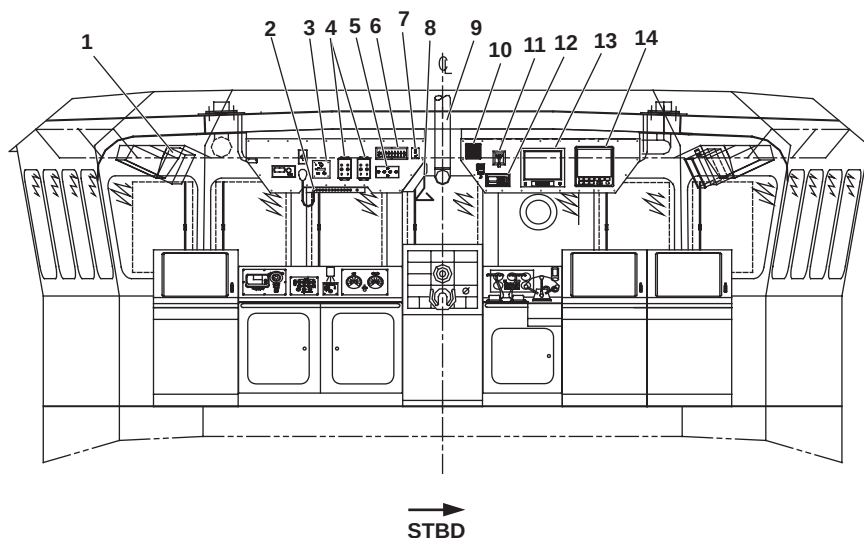

Figure 4. Pilothouse Interior (Looking Forward)
1. Digital Repeater Compass (figure 4, item 1). The digital repeater compass displays vessel heading from the gyrocompass.
2. Public Address (PA) panel (figure 4, item 2). The PA panel controls volume and destination for PA announcements.
3. Speed log (figure 4, item 3). The speed log displays vessel speed.
4. Clearview screen controls (figure 4, item 4). The clearview screen controls provide controls for the forward and aft clearview screens.
5. Windshield wiper control panel (figure 4, item 5). The windshield wiper control panel provides controls for the pilot-house windshield wipers and washers.
6. Window heater switch bank (figure 4, item 6). The window heater switch bank provides individual controls for the heated pilothouse windows.
7. Binnacle light panel (figure 4, item 7). The binnacle light panel provides controls for the binnacle light.
8. Horn pull (figure 4, item 8). The horn pull controls the operation of the ship's whistle (horn).
9. Mirror projection binnacle (figure 4, item 9). The mirror projection binnacle permits the helmsman to view the magnetic compass binnacle mounted on the pilothouse top.
10. Speaker (figure 4, item 10). The speaker broadcasts output from the marine VHF radio.
11. At will and automatic fog whistle controller (figure 4, item 11). The at will and automatic fog whistle controller provides controls for the automatic fog horn and permits selection between at will and automatic operating modes.
12. Marine VHF radio (figure 4, item 12). The marine VHF radio permits communication between the LT and other vessels and shore stations.
13. Nauto conning screen (figure 4, item 13). The nauto conning screen displays navigational information to the helmsman.
14. Depth finder (figure 4, item 14). The depth finder displays the water depth.